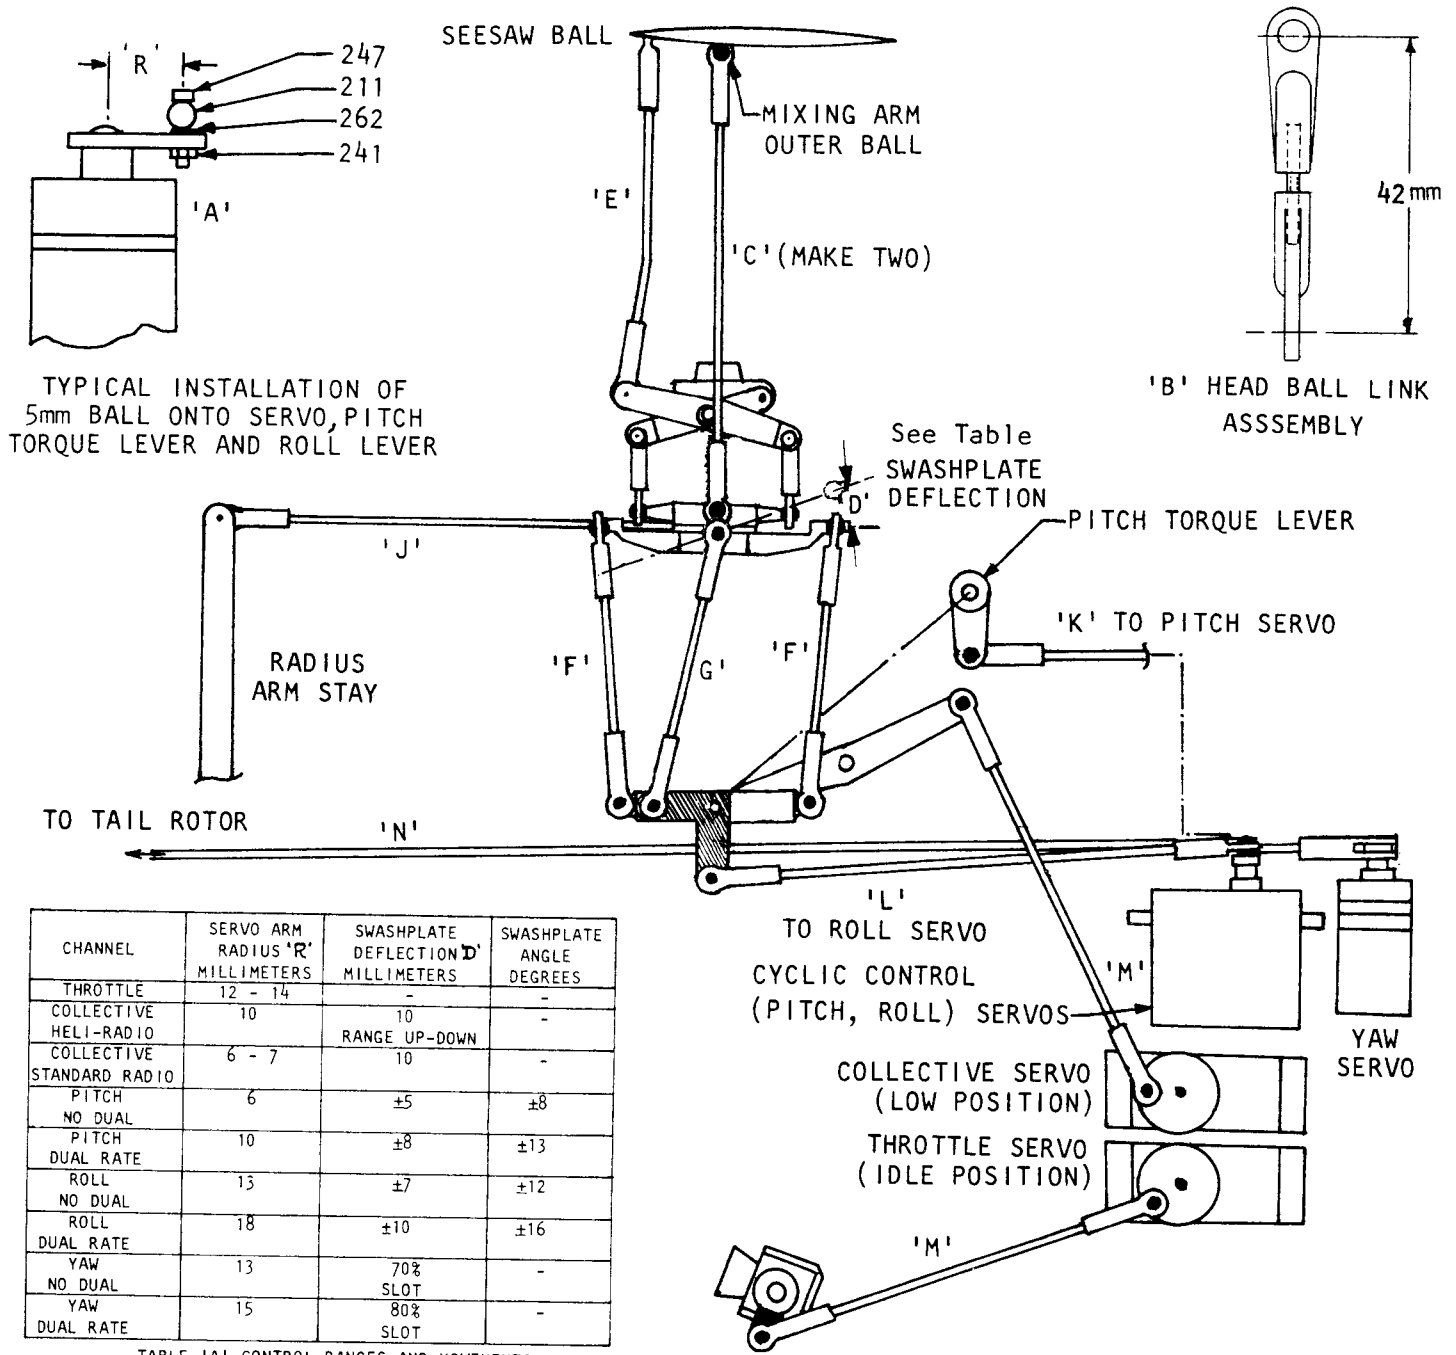

Figure 14
CONTROLS INSTALLATION AND SET-UP - see Figure 14
Note: See Figure 14 for each individual control rod connection. Each rod is marked with a letter corresponding to the appropriate steps below. For example, Step 'B' will refer to the installation of control rod marked 'B'.
- A. Fit a 5mm ball onto each of the output arms of the pitch (elevator), roll (aileron) and throttle and collective servo (if used). If only one servo is used for throttle (collective) then two 5mm balls will be fitted to a servo wheel as shown in Figure 16. Table 'A' in Figure 14 suggests the radius at which the ball should be fitted onto each servo arm and illustrates a typical installation for your guidance.
- ✓ B. Cut about 3mm from the ends of four ball links #570 as shown in Figure 14. Take the two 2 x 16mm (42mm) threaded rods. Screw one of these ball joints onto the end of each of the two threaded rods. Make sure that the rod enters each ball joint equally to a depth of at least 6mm. The distance between the centers of the two balls, if fitted to the ball links, should be 36mm as an initial adjustment. The ball joint ends should be rotated to be at right angles to each other. These two units are fitted between the inside balls of the blade mixing arms and the pivot bolts of the main blade arms. Since these ball links are subject to high flight loads, please make them up very carefully.